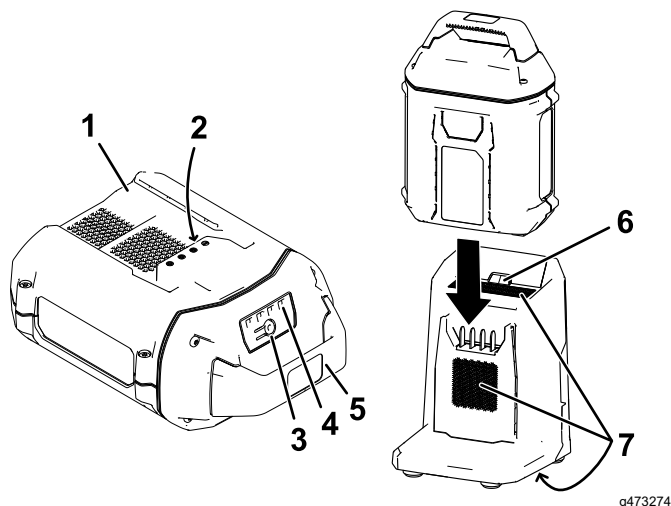

Figure 18
2. Line up the cavity in the battery pack (Figure 18) with the tongue on the charger.
3. Slide the battery pack into the charger until it is fully seated (Figure 18).